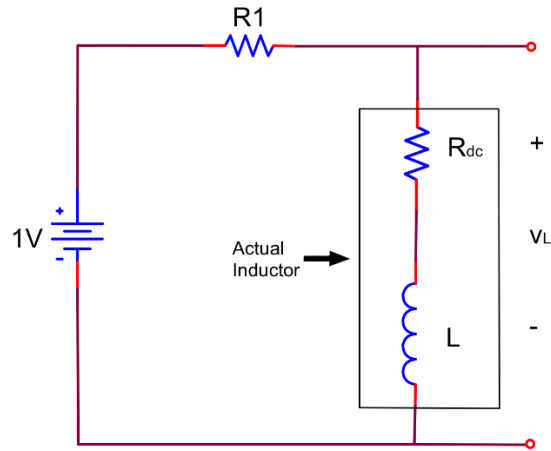

Figure 10.5
3. An "actual" inductor can be modeled as a resistor in series with an ideal inductor. If the circuit in Figure 10.5 is constructed with a one volt d.c. source, show that: